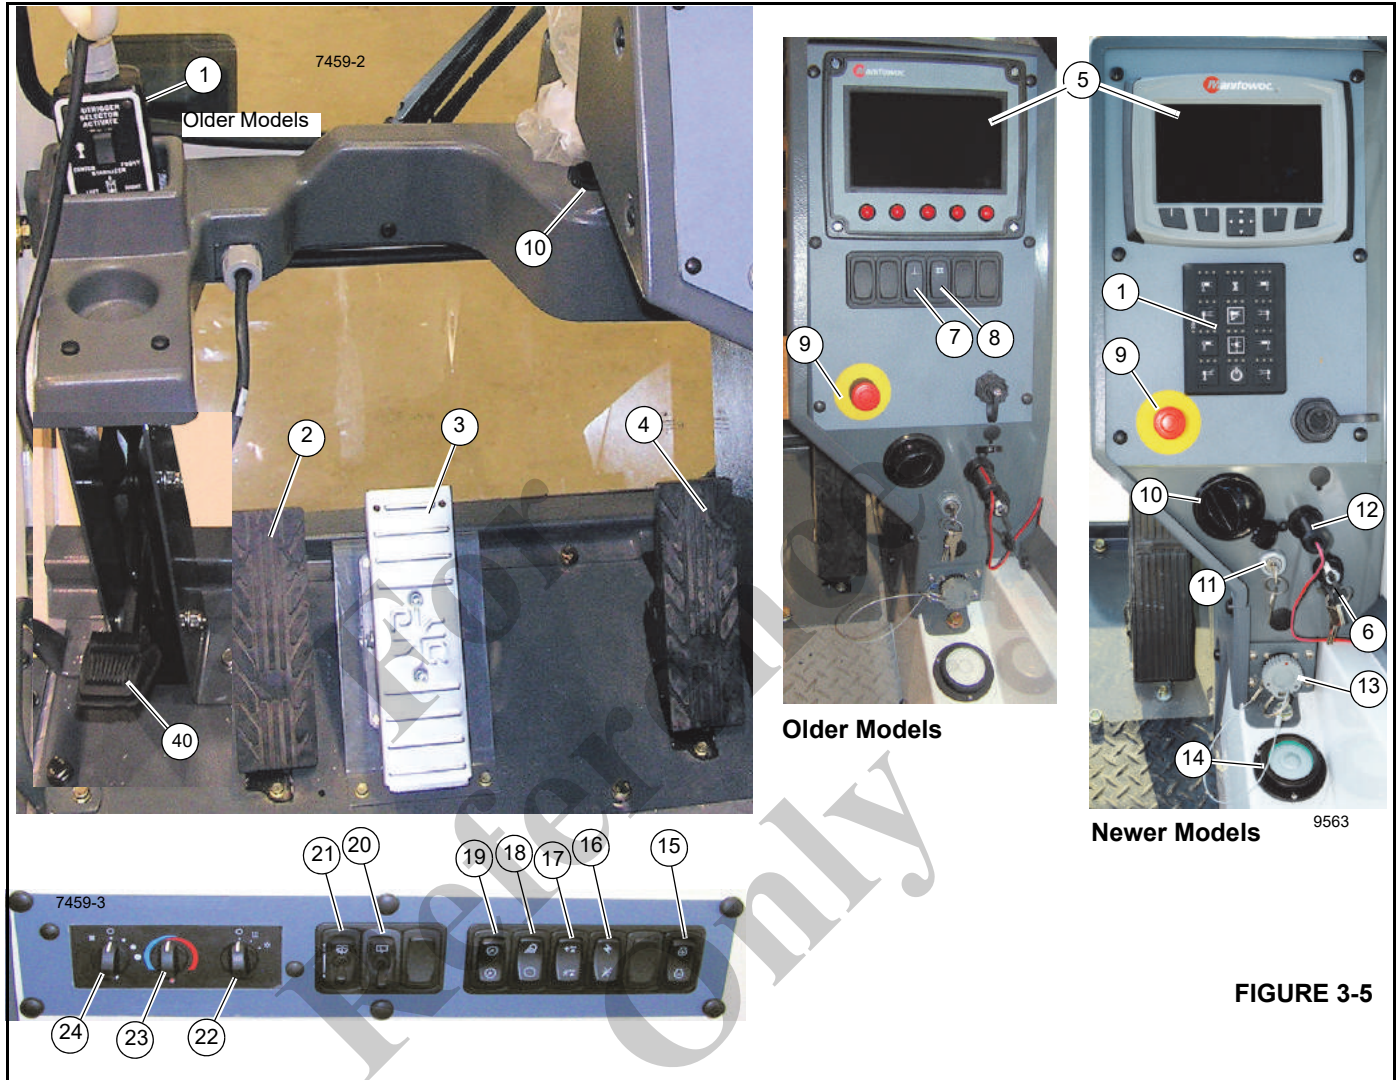

FIGURE 3-5
NOTE: The operator must be in the crane cab seat with left armrest lowered and crane power switch (Figure 3-5) ON for the crane cab outrigger controls to operate.
The crane controls are located in the crane cab and are used for all crane functions. See Figure 3-5 & Figure 3-6 for crane cab item number (#) identification. For best control response, run the engine at governed RPM when operating the crane.
The swing brake pedal (2, Figure 3-5) is located on the left side of the crane cab floor. Pressing the pedal down applies brake to the turret and prevents rotation; releasing the pedal allows the turret to rotate freely.
The swing lock pedal (40, Figure 3-5) is located on the left side of the crane cab floor. The brake pedal is used to mechanically lock the turret in a given position (360° lock).
When the swing brake is locked, the swing brake indicator (7, Figure 3-5) icon appears on the RCL display.
The crane is equipped with the boom telescope pedal only when the auxiliary hoist option is included. The telescope foot pedal (3, Figure 3-5) is located on the crane cab floor and is used to extend and retract the boom. Pushing down at the top of the pedal extends the boom out; pushing down at the bottom of the pedal telescopes the boom in.
The foot throttle (4, Figure 3-5) is located on the crane cab floor and is used to control the engine speed. Depress the foot throttle to accelerate the engine speed and release to return to idle.
The display panel (5, Figure 3-5) is for the Rated Capacity Limiter (RCL), see operating instructions and screen displays in this manual.
There are two RCL Bypass (Override) Switches (6, Figure 3-5) located in the crane cab.
The RCL bypass switch (6, Figure 3-5) located behind the cab seat, below the fuse relay panel, is an off/on switch and will bypass the overloaded controls until the switch is turned to the OFF position.
The crane emergency stop switch (9, Figure 3-5) is located on the cab console and is used to shut down the truck engine in an emergency. Push the red button in to shut down the engine, rotate the knob and pull out to resume normal operation.
The cab has air conditioner and heating vents (10, Figure 3-5), located on the control panel, behind the panel, under the seat and at head level.
The crane ignition switch (11, Figure 3-5) is located on the crane cab console and controls the truck engine and crane cab power. The ignition switch has three positions. OFF shuts down engine and cab power, ON activates truck engine ignition as well as all cab power, and Start is truck engine start.
This 12 volt accessory outlet (12, Figure 3-5) is located on the lower part of the front control panel and is designed to mate with most 12 volt adapter plugs.
The diagnostic connector (13, Figure 3-5) is located on the lower part of the front control panel. It is used for servicing the cab and crane's electrical system.
The bubble level indicator (14, Figure 3-5) is located on the right interior wall of the cab. The indicator provides the operator with a visual indication for determining the levelness of the machine.
The truck engine Hi/Low Switch (15, Figure 3-5) is located on the right overhead console.
The crane function power switch (16, Figure 3-5) is located on the right overhead console. The switch has two positions: OFF takes all power from the joy stick controllers on the arm rest and from the swing brake unlock (assuring the brake stays locked). The OFF position prevents inadvertent operation of these functions and assures the swing brake is set when the crane is not powered. The ON position restores power to the joy stick controllers and the swing brake.
The radio remote switch (17, Figure 3-5) is used to enable the radio remote controls. The crane function power switch, and truck ignition must all be OFF before the crane can be operated with a radio remote control. The crane ignition switch must be in the ON position.
The work light switch (18, Figure 3-5) is a two position rocker switch, ON and OFF, located on the right overhead console. It turns the cab outside working lights on or off.
The dimmer light control (19, Figure 3-5) dims the light for the AC/heater control knob (23).